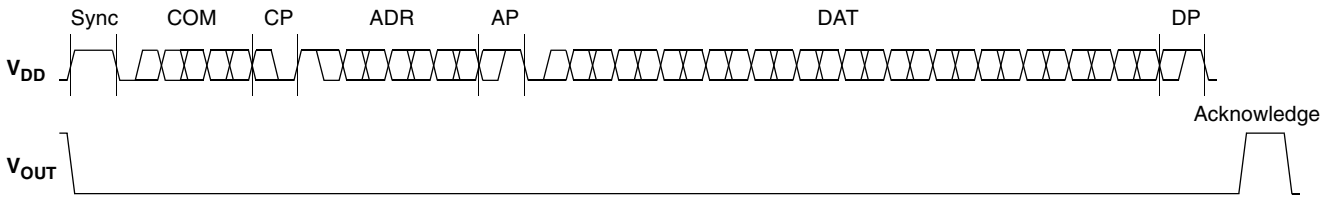

Fig. 5-2: Telegram for coding a Write command
- Write a register (see Fig. 5-2 on page 28)